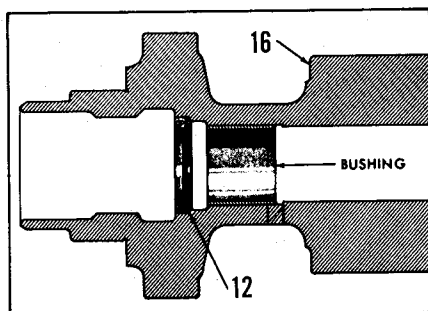

Fig. 164—Cross-section of mainshaft (16) showing proper installation of pto shaft oil seal (12). Bushing is not available separately from mainshaft.
support (21) from front end of transmission housing to allow countershaft to drop down. Engage sliding gear/coupling (19) with dog teeth on front end of secondary countershaft (41), then remove the mainshaft (16) from front end of transmission. Splash lubricated transmissions have a thrust washer (15) at front of mainshaft. Refer to Fig. 164, remove old seal and install new seal (12) with lip towards bushing as shown.